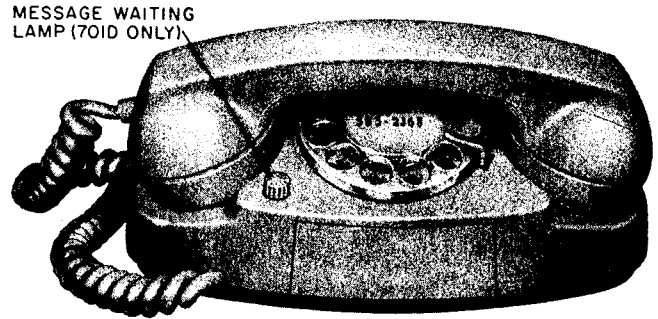

Fig. 3 — 701-Type Telephone Set
**2.04** The 701-type telephone sets (Fig. 3) are rated Manufacture Discontinued (MD).
2.08 The 701D telephone set is equipped with a message waiting lamp (see Fig. 3). This set is intended for use with PBX which provides message waiting feature.